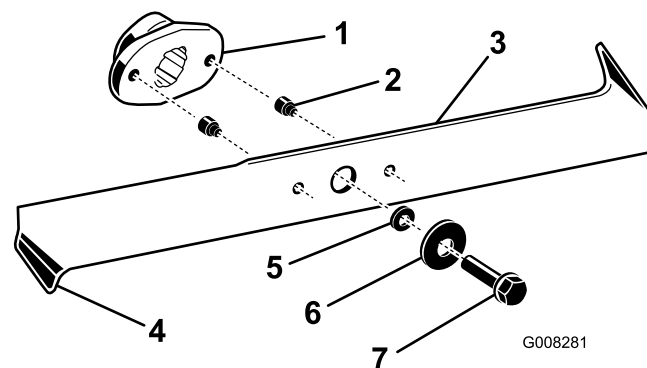

Figure 38
2. Inspect the cutting edges (Figure 38). If the edges are not sharp or have nicks, remove the blades and sharpen them; refer to Sharpening the Blades.
3. Inspect the blades, especially the bent edges (Figure 38). If you notice any wear or damage in this area, immediately install new blades.
4. If the shear pins are broken, replace them immediately (Figure 38).
3. Remove the bolts, washers, and blades (Figure 38). Wedge a block of wood between each blade and the mower to lock the blade when you are removing each bolt.
1. Install the blades, washers, and blade bolts (Figure 38).